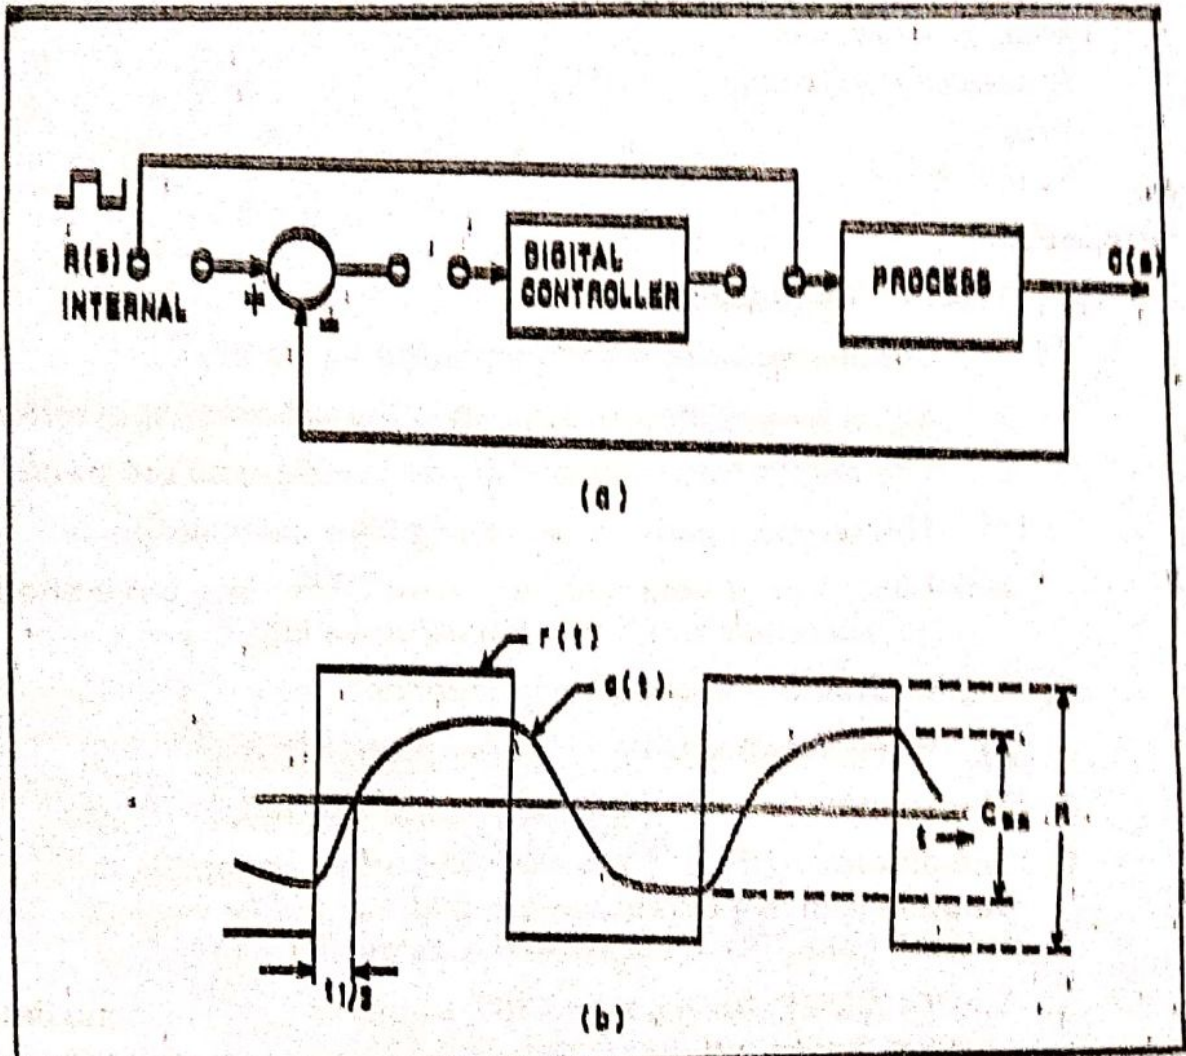

Fig. 2. CONNECTIONS FOR PROCESS IDENTIFICATION (a), AND RESPONSE MEASUREMENTS (b)
1. Connections are made as per the figure 2.
4. The process parameters (K), (a) are calculated.